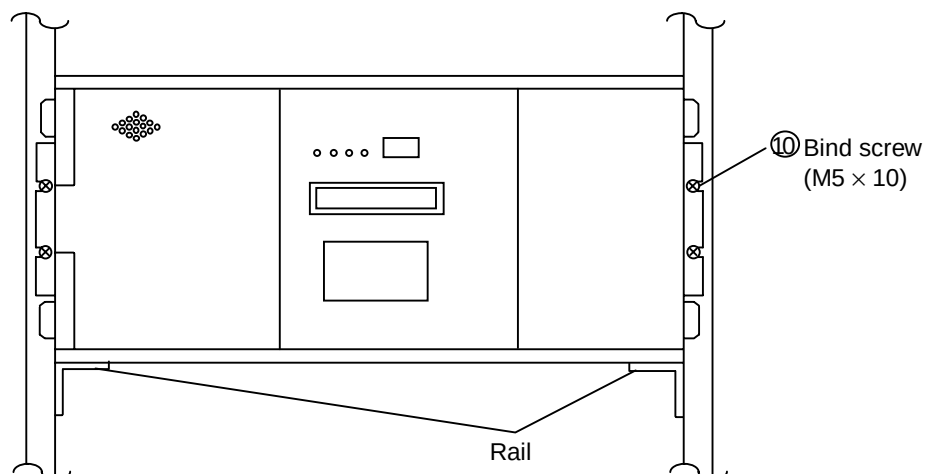

Figure 3.4.6 Securing the Front Side of the Subsystem
3.4.6 Securing the front side of the subsystem (See Figure 3.4.6.)